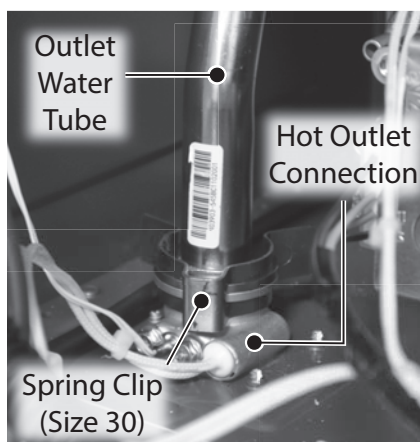

Figure 206 - Remove spring clip from outlet water tube
**20** Locate and remove the spring clip (size 30) securing outlet water tube to hot outlet connection as shown in Figure 206. Place spring clip aside in a safe place for reinstallation.